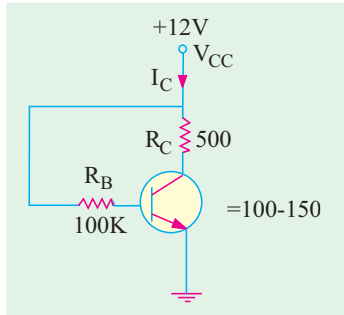

Fig. 58.10
2. base bias with emitter feedback (Fig. 58.10)
Example 58.6. The base-biased transistor circuit of Fig. 58.10 is subjected to increase in junction temperature from 25°C to 75°C. If β increases from 100 to 150 with rising temperature, calculate the percentage change in Q-point values (I_C , V_{CE}) over the temperature range. Assume that V_{BE} remains constant at 0.7 V.